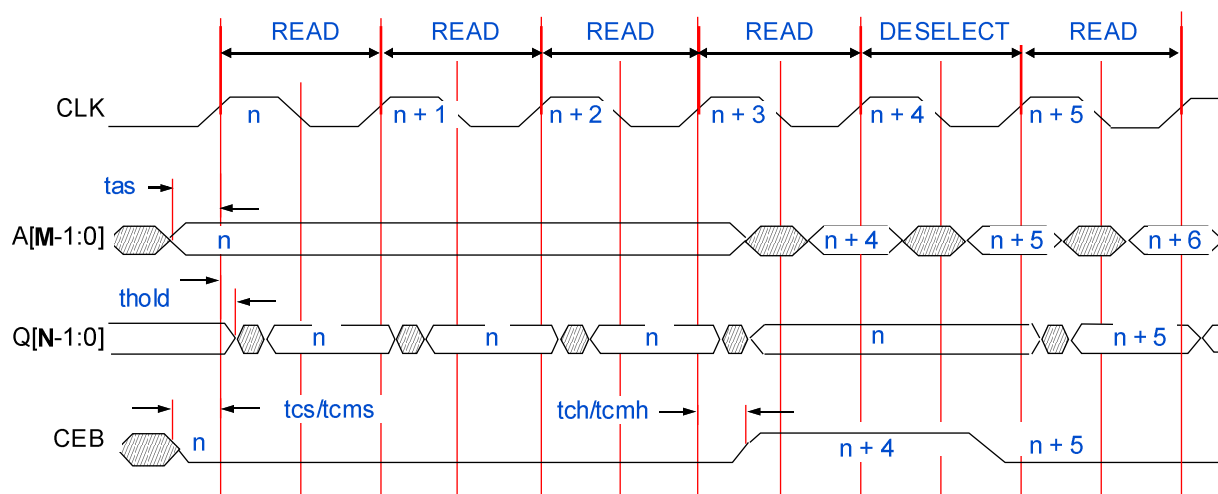

Figure 7.2 Timing Diagram
* Even if the address does not change, the output may go to an unknown state on the rising clock edge (see Figure 7.2 above). If it is desired to keep the same output data from previous cycle, regardless of the address changing or not, the Chip Enable (CEB) should go high (Standby Mode) before the rising clock edge (see Figure 7.2).